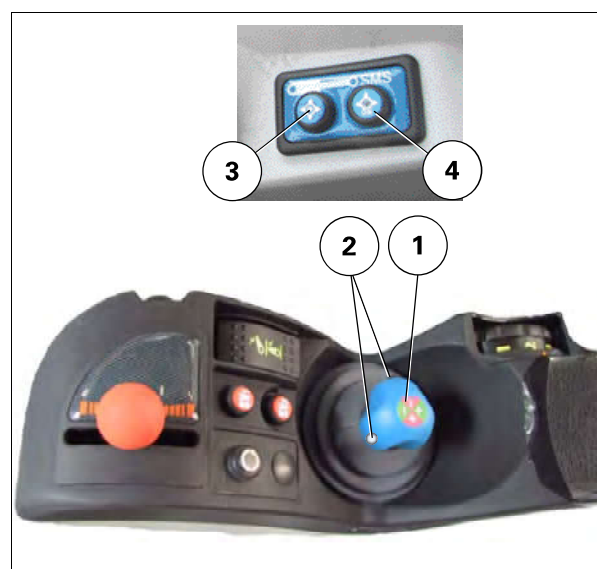

Fig. 17.
1. Press the button (4) fig. 17 to activate the joystick; the red indicator light goes out and the padlock icon disappears from the half-screens; adjustment via Datatronic 3 is now possible.